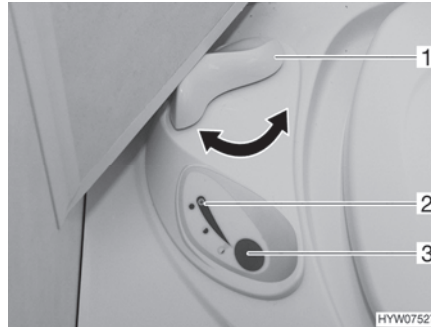

Fig. 160 Operating unit Thetford toilet
- Before flushing open the sliding trap of the Thetford toilet. To do this, turn the slide lever (Fig. 160,1) in an anticlockwise direction.
- For flushing, press the blue flush button (Fig. 160,3).
- After flushing close the sliding trap. To do this turn the slide lever (Fig. 160,1) in a clockwise direction.
The indicator lamp (Fig. 160,2) lights up whenever the Thetford cassette has to be emptied.